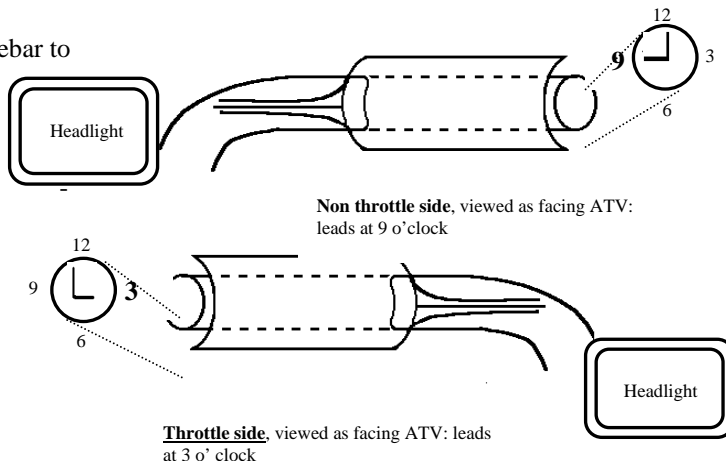

Fig. 1 Hand warmer positioning, viewed as facing ATV
2. Non throttle side hand warmer: Peel release paper from back of hand warmer and position (non throttle side) heater with wire leads at 9 o'clock position (Fig. 1). Remove air pockets by pressing with thumb and moving toward edge.
3. Throttle side hand warmer: Peel release paper from back of hand warmer and position heater with wire leads at 3 o'clock position (Fig. 1).